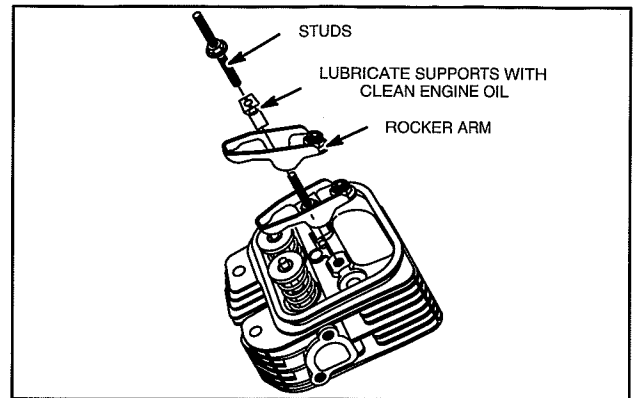

Fig. 23 – Install Rocker Arms – Current Style
2. Assemble rocker studs, rocker arm supports and rocker arms to cylinder head, Fig. 23.